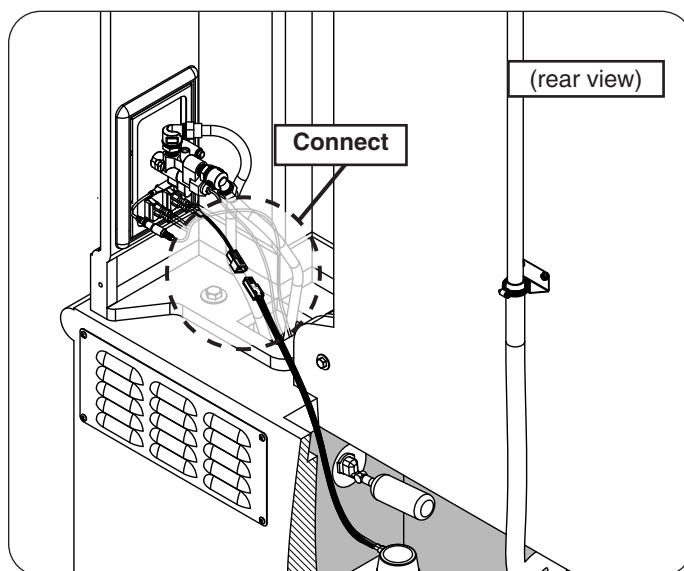

Fig. 30-2 Connect pump wire
3. Connect the loose wire on the pump to the shorter loose wire coming from the control box (see Fig. 30-2).